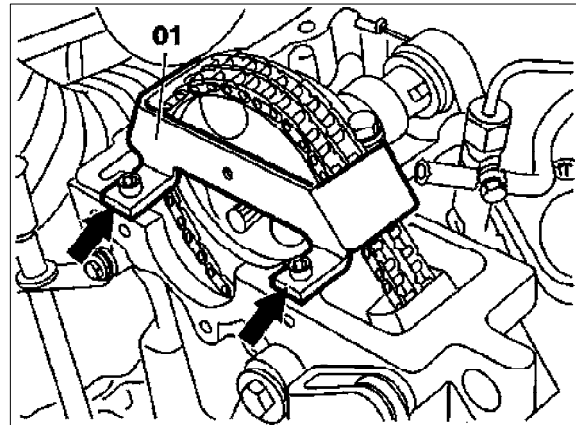

Figure 1
5. Attach retainer (01, Figure 1) Special Tool 602 589 01 40 00 on engines 601 - 603 or Special Tool 602 589 00 40 00 on engines 604 - 606, to cylinder head with bolts as shown (arrows, Figure 1).